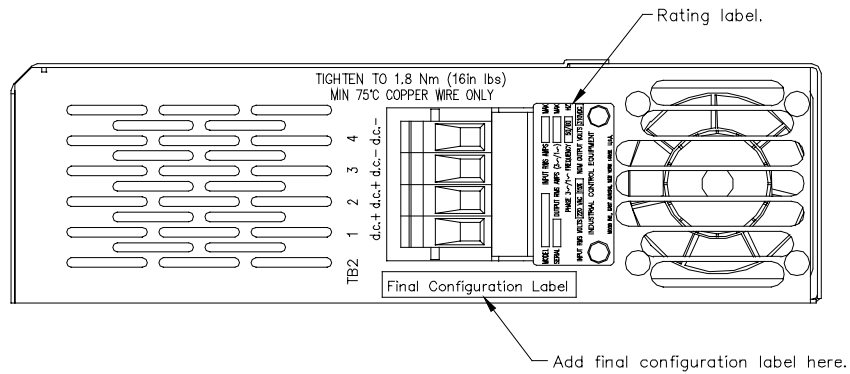

FIGURE 2.16 Final Configuration Label Mounting Location.
6. Place the supplied Final Configuration Label along the bottom of the housing beside TB2 as shown in FIGURE 2.16.